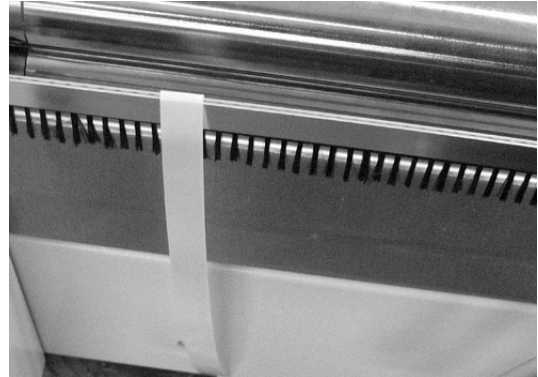

Figure 8b
2. Place strap over static brush in appropriate location. (figure 8b)